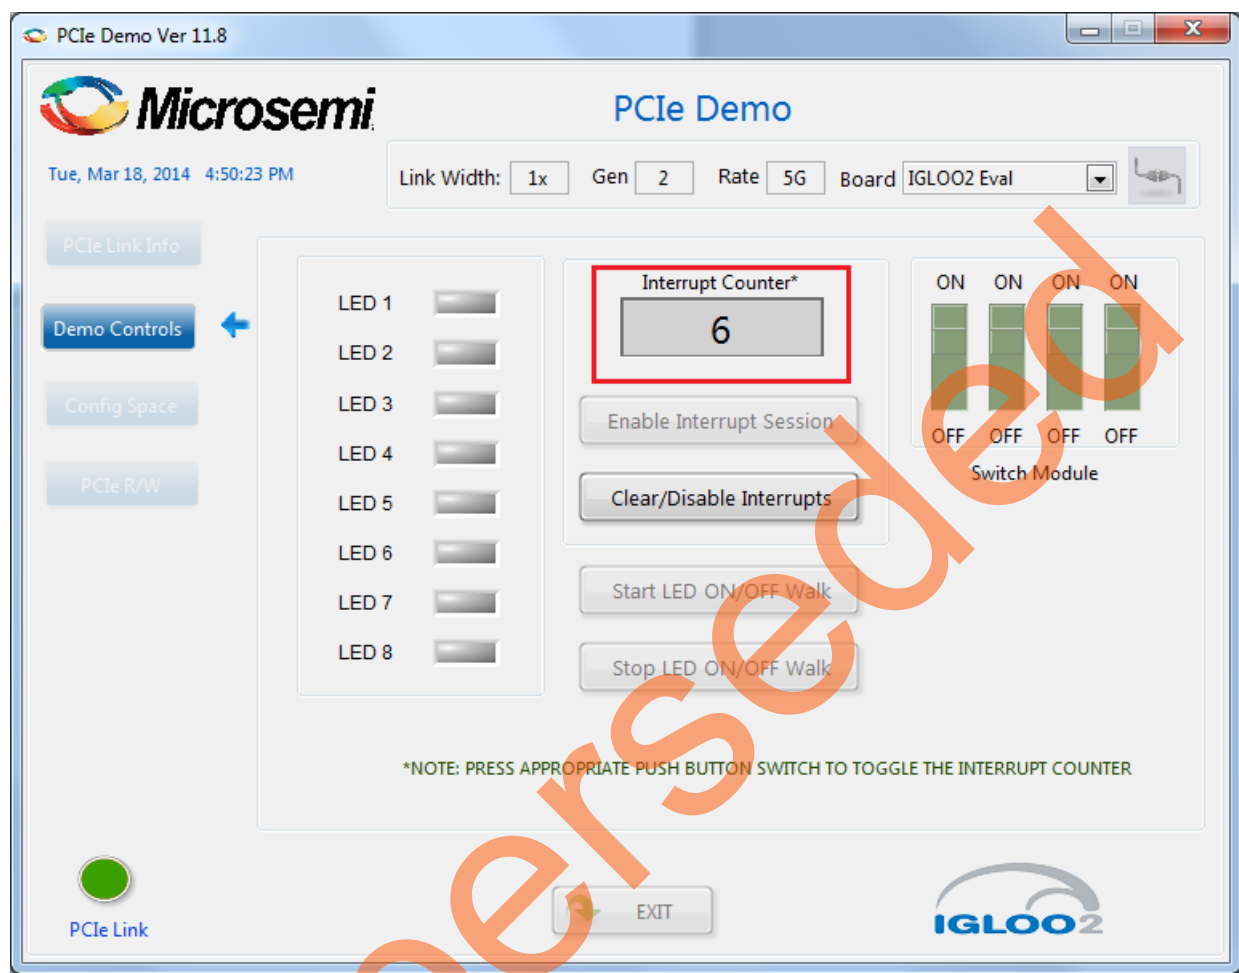

Figure 58 • Interrupt Counter
10. Press the push button **SW4** on the IGLOO2 Evaluation Kit and observe the interrupt count on the **Interrupt Counter** field in the GUI as shown in Figure 58.